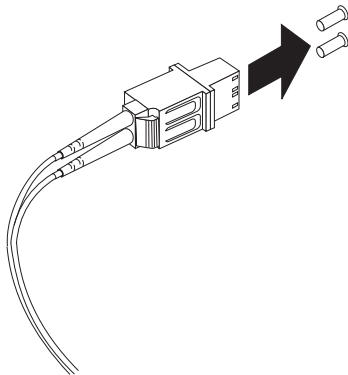

Figure 45. Removing the LC-SC cable adapter protective caps
3. Remove the two protective caps from the LC connector end of the LC-SC cable adapter as shown in Figure 45. Save the protective caps for future use.